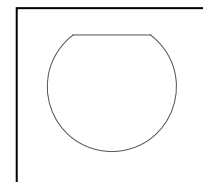

Figure 2
- 3.0 If you have a shaft as in **Figure 2**, slide the **R126 Spiral Left Hand** onto the shaft and tighten the two (2) **Set Screws** onto the flat of the shaft.